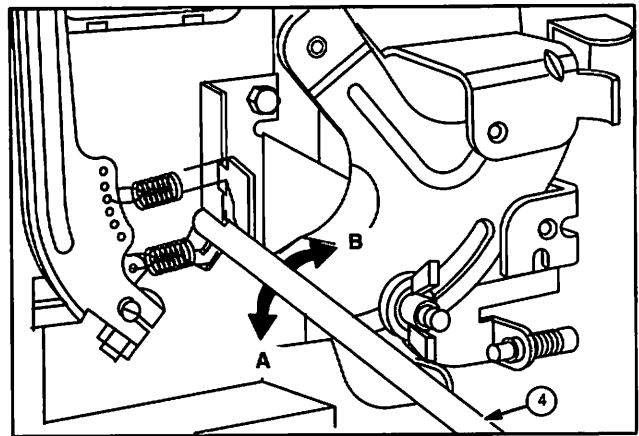

Fig. 24
Model Series 93400 (Fig. 24)
2. Move speed control lever to obtain 1800 RPM. Use Tool 19229 (4) to bend governed idle speed tang up against speed control lever, ("A" to increase, "B" to decrease), Figs. 24, 25.